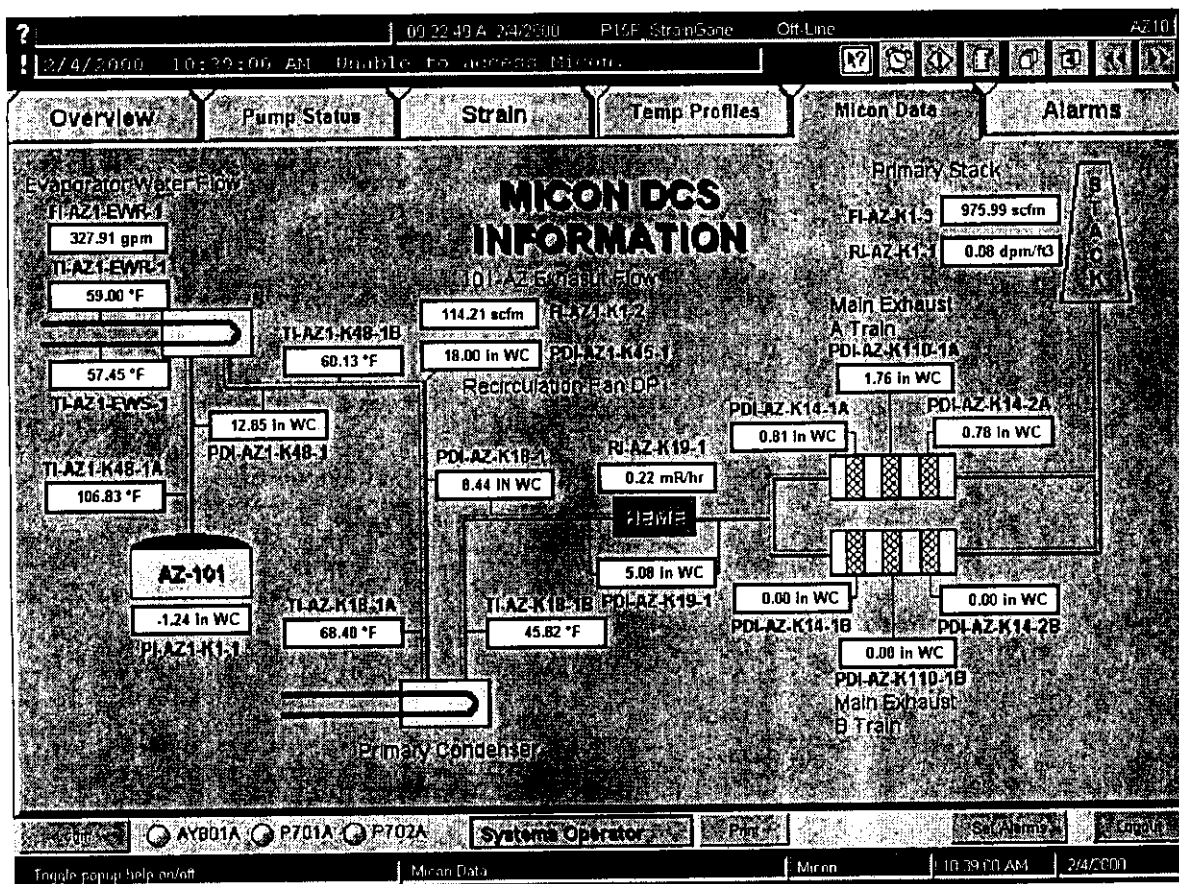

FIGURE 8
- "MICON DATA" (Figure 8)
This screen displays ventilation process data for TK AZ-101. Primary data available as shown in Figure 8 are: